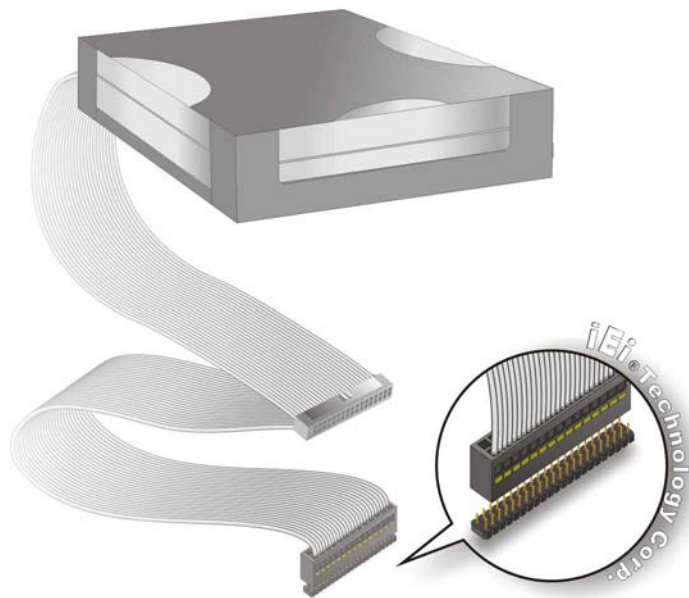

Figure 5-9: IDE Cable Connection
Step 2: **Insert the connector.** Connect the IDE cable connector to the on-board connector. See Figure 5-9. A key on the front of the cable connector ensures it can only be inserted in one direction.